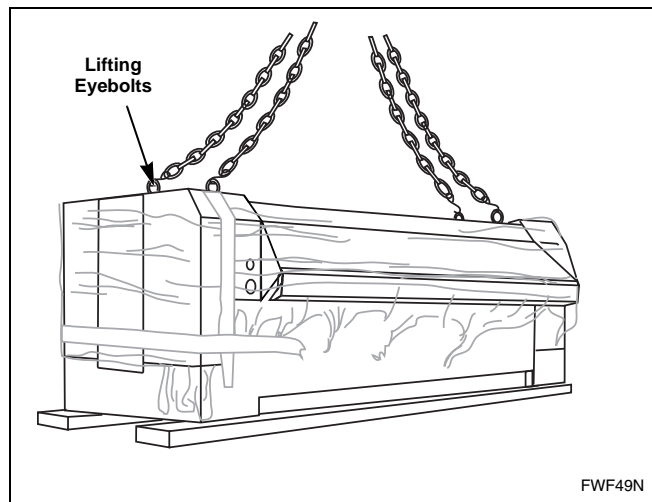

Figure 2
2. Fasten lifting cables to lifting eyebolts. Refer to *Figure 2*.